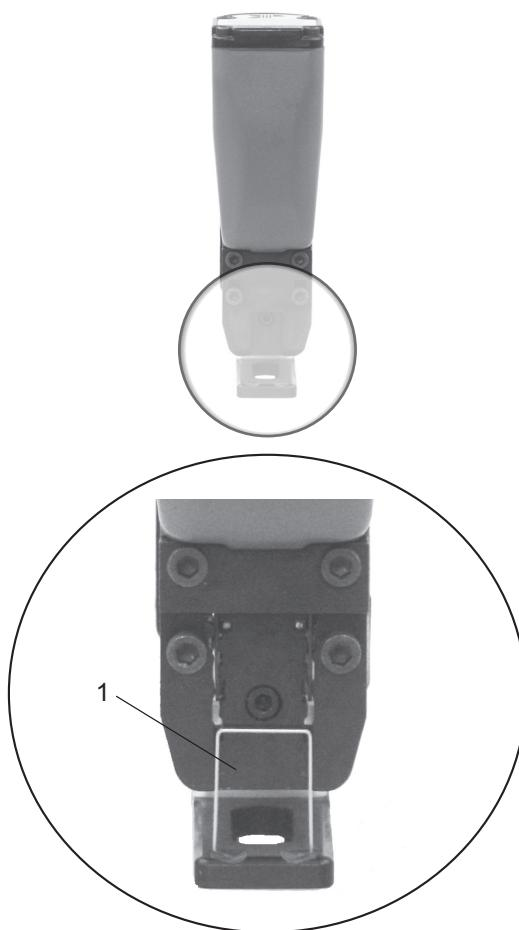

Fig. 11
- Insert a lose staple into the nozzle (Fig.11/1).